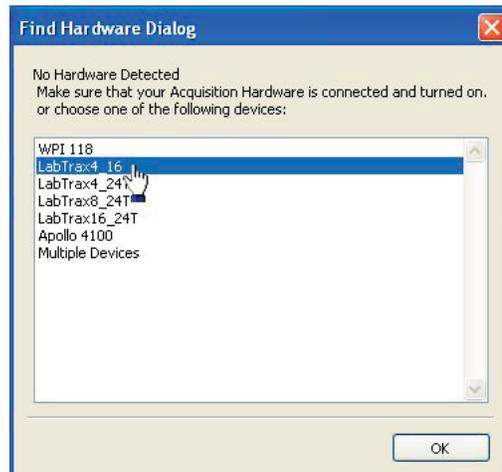

Fig. 35—Found Hardware dialog box
NOTE: if no hardware is connected to the computer when LabScribe is launched, the **Find Hardware** dialog box (Fig. 35) appears when LabScribe is launched. Select the appropriate hardware device and click the **OK** button. (For the TBR4100/1025, select **LabTrax4_16**.)
2. Select the **Channel** tab at the top of the **Preferences Dialog** window. This tab allows for configuration of all channels (Fig. 35).